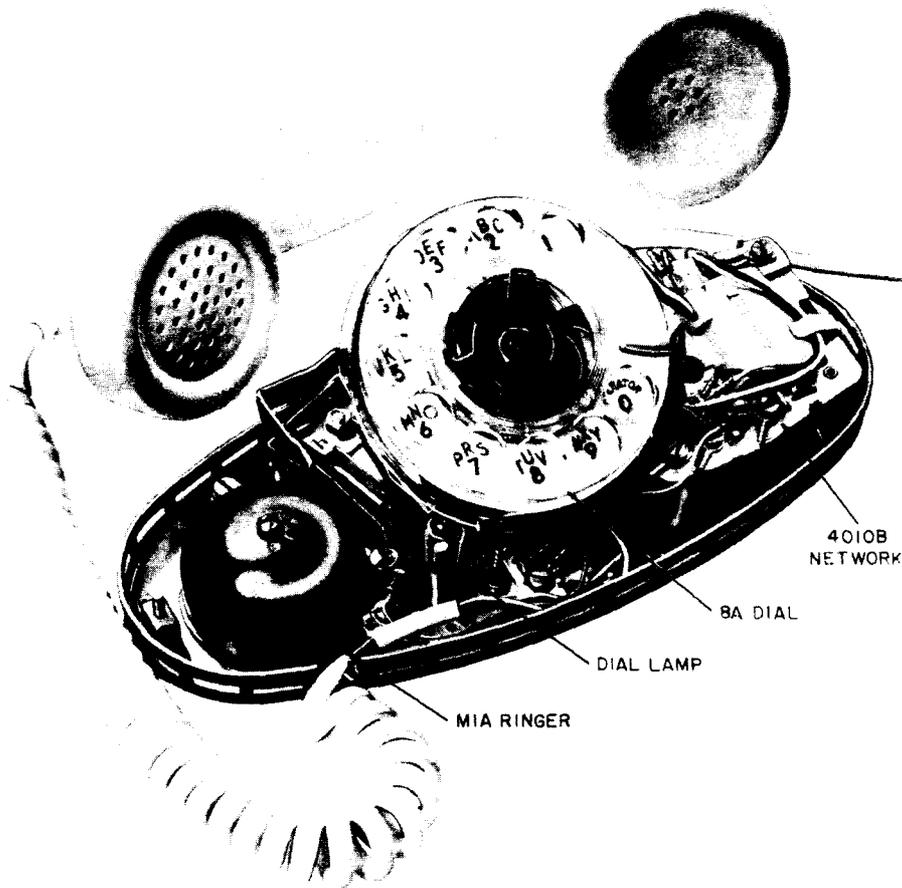

Fig. 5 — 702B Telephone Set — Housing Removed
**2.22** The 702B telephone set (Fig. 5) consists of an 8A dial, 4010B network, M1A ringer, G3AR handset, and a lamp for dial illumination mounted on a metal base and enclosed in a plastic housing. A five conductor mounting cord is also included.